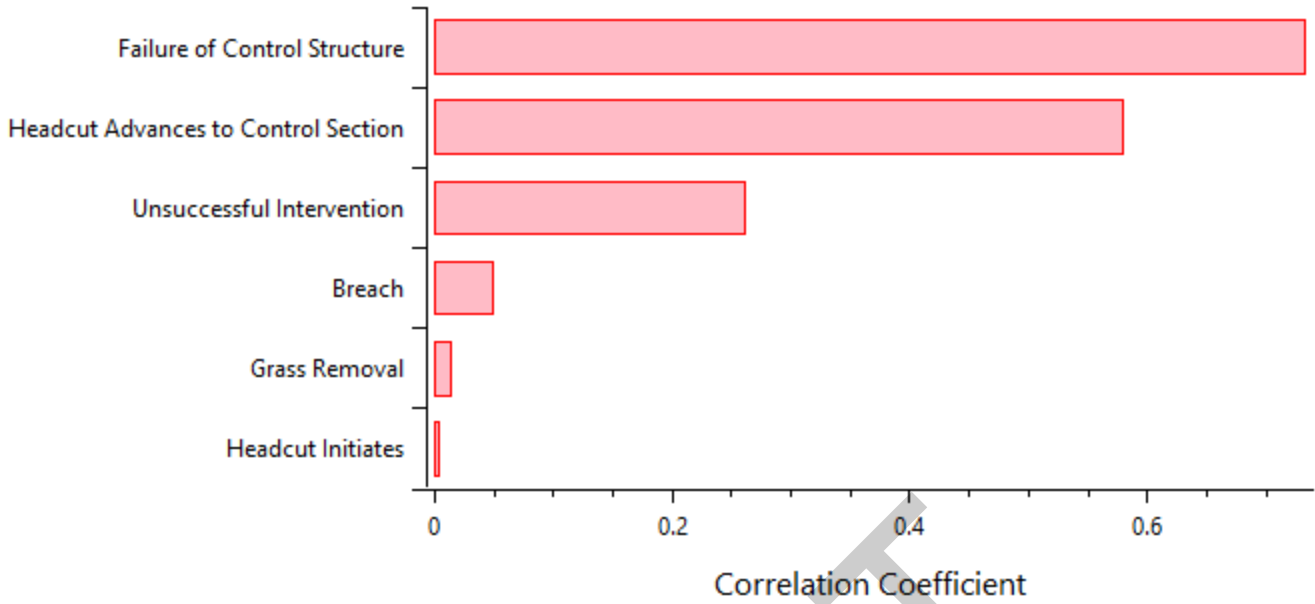

Figure 94 – Event tree diagnostics tree node correlation to SRP plot.
- **Correlation to SRP** Displays the Pearson's correlation coefficient for how each node's sampled probabilities correlate to the overall system response probability (SRP). Chance nodes will have a positive correlation with the SRP, whereas remainder nodes will have a negative correlation. The absolute size of the correlation coefficient indicates the strength of the association with SRP [1]. The nodal correlations to SRP are displayed as a ranked tornado plot shown in Figure 94 below.